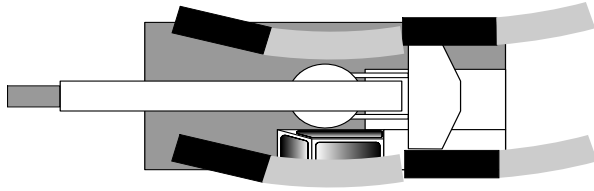

FIGURE 3-12
3. Push and hold the steer synchronize switch (1, Figure 3-12).